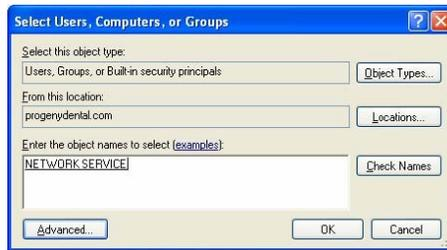

Figure 72
11. Click OK (see Figure 72 on page 46).